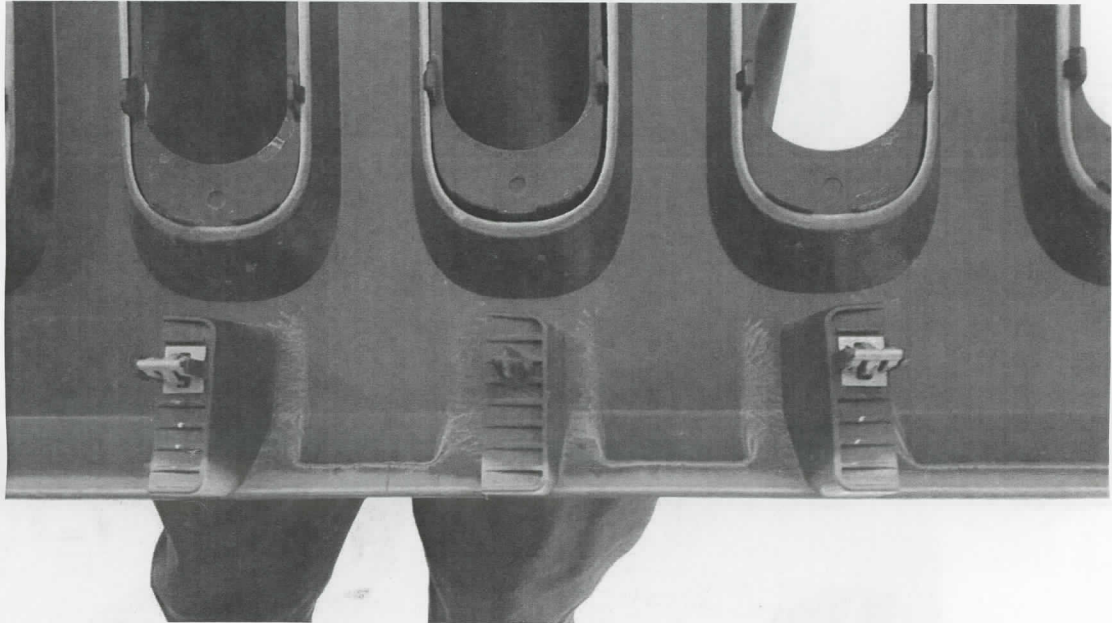

Figure 6
10. At this point there are several clips at the base of the grille. Pulling firmly at this location the grille should now be free. (Ref. Figure 6)